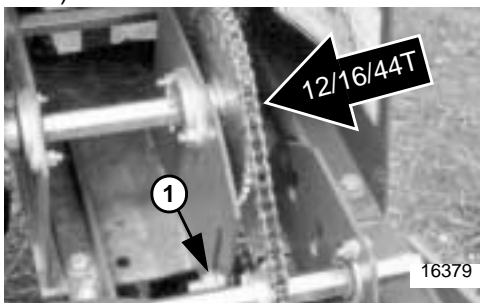

Figure 3-1
2. To switch between high and low range, loosen and slide idler sprocket (1) out of chain shown in Figure 3-1. Remove lynch pin from end of shaft and install correct sprocket.